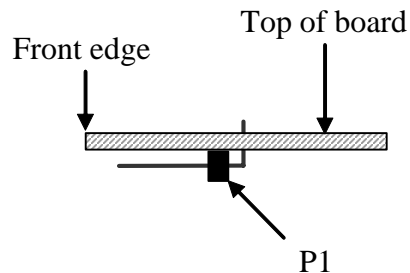

Figure 6-5
- Position 20-pin male right-angle connector P1 on the **bottom** of the board (Figure 6-5), but do not solder P1 yet. **Review Figure 3-3 (page 8) for correct placement.** The short ends of the bent pins are inserted into the holes, and the long ends must be parallel with the board.